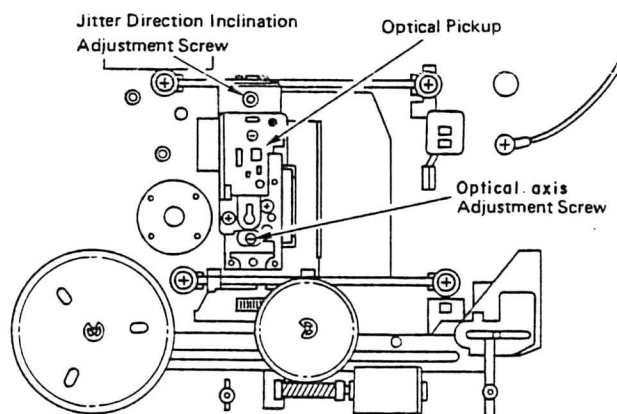
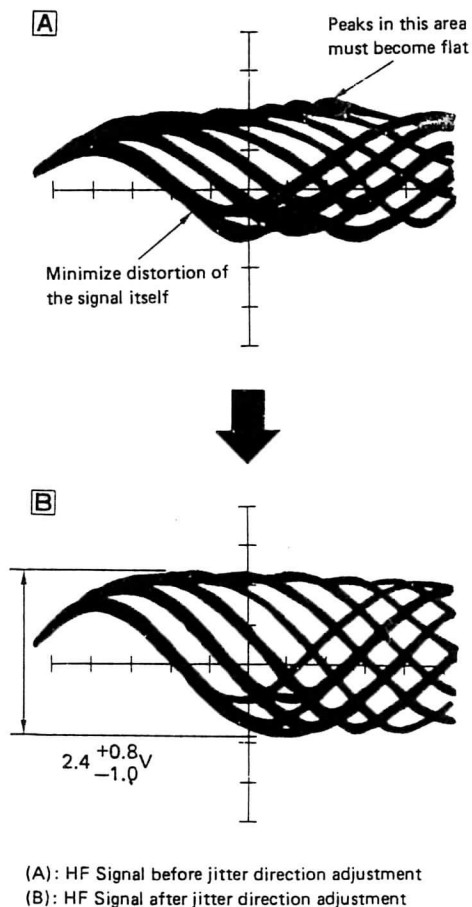

Fig. 7-1
Fig. 7-3
Fine inclination adjustment in the jitter direction is necessary after replacing the pick-up. Adjustment is performed by rotating the Jitter Direction Inclination Adjustment Screw. (Fig. 7-1)
- 5) Turn right and left the Jitter Direction Adjustment Screw (Fig. 7-1) with the hexagonal driver (2.4 mm) until the HF Signal pattern change from (A) to (B) in Fig. 7-3.
Check that the HF signal pattern is clear as shown in Fig. 7-3 **B**.